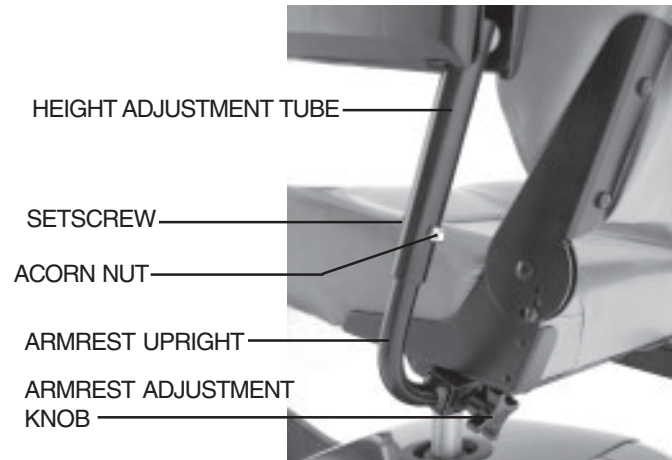

Figure 16. Armrest Adjustments
1. Loosen the armrest adjustment knobs at the back of the seat frame. See figure 16.
Refer to figure 16 when adjusting the armrest height.
1. Loosen the setscrew on the side of the height adjustment tube with the 1/8-in. hex key. See figure 16.